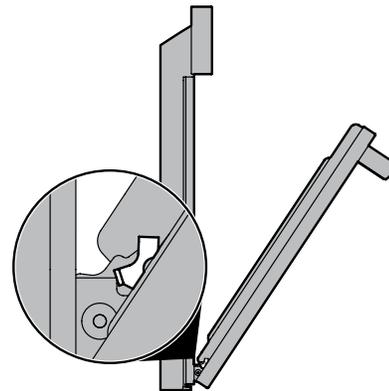

Figure 26: Removal position
3. Grasp the door by the sides, and close the door until the door frame makes contact with the unlocked hinges (Figure 26).